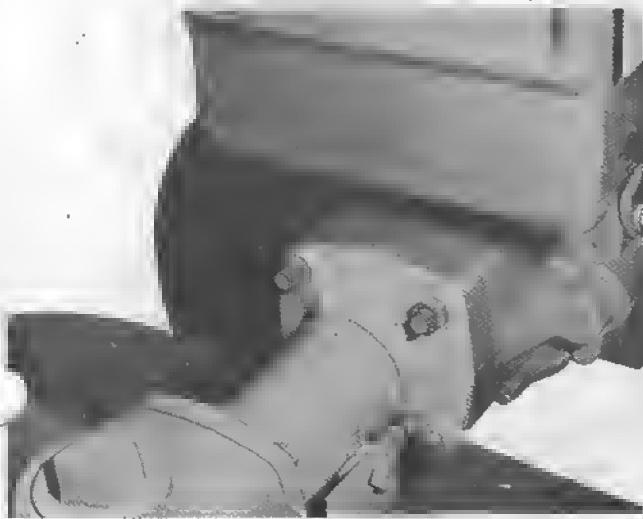

**fig 6**
3. Remove filler plug and level plug, fig 6. Fill the gear drive housing to the oil level plug with SAE 90 gear lubricant. Replace the plugs. Check the level periodically especially if signs of leakage are present.
4. Grease the swivel casting through the grease fitting on the casting with general purpose grease. Add grease until it comes out under the swivel adjustment fig 6. Regrease every 8 HOURS of operation.